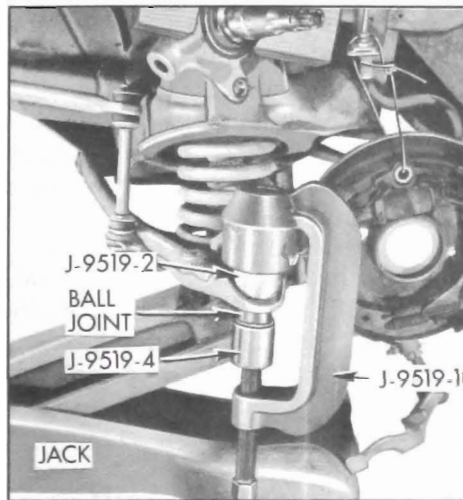

Figure 7-17—Lower Ball Joint Installer Tool in Place
1. Position ball joint minus dust shield in lower control arm and install Tool J-9519 as shown in Figure 7-17. Note that the larger